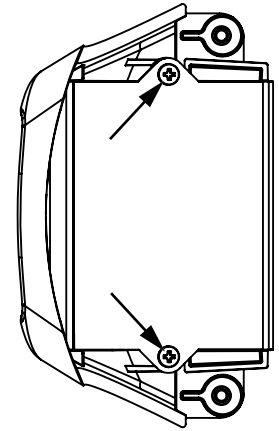

FIG. 2
3. Remove the two screws and cover on bottom of the display, Fig 2.